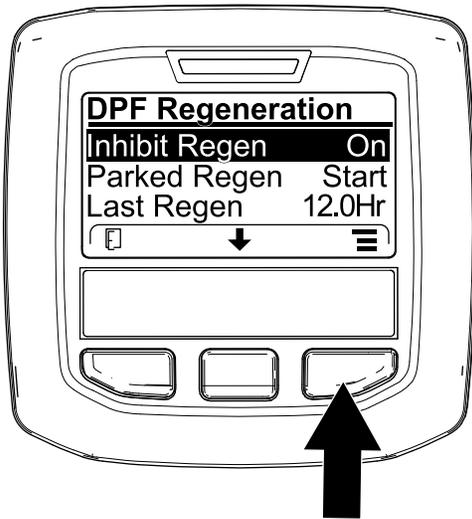
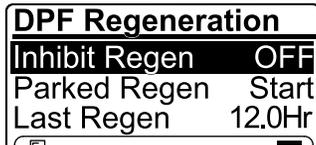

Figure 49
Figure 50
1. Access the DPF Regeneration menu, press the center button to scroll down to the INHIBIT REGEN option, and press the right button to select the Inhibit Regen entry (Figure 49).
- Press the right button to change the inhibit regeneration setting from On to Off (Figure 49) or from Off to On (Figure 50).